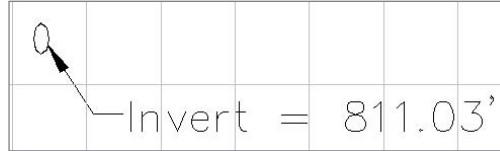

Figure 11.18
8. Select the label so that a grip appears. Use the grip to drag the label off to the side. A leader will appear, as shown in Figure 11.18. Press Esc to deselect the label.